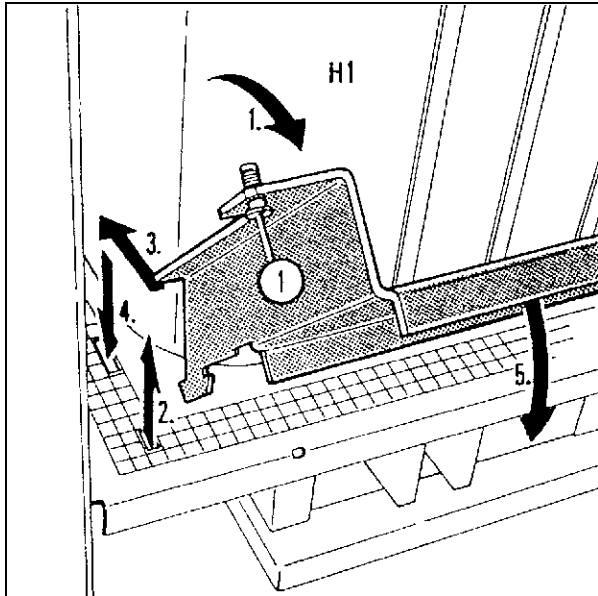

Fig. 20:
- Open bayonet catches of the holder (1/ Fig. 20 / p. 34).
- Change over and hinge out the holder for the high-voltage transformer according to (Fig. 20 / p. 34).